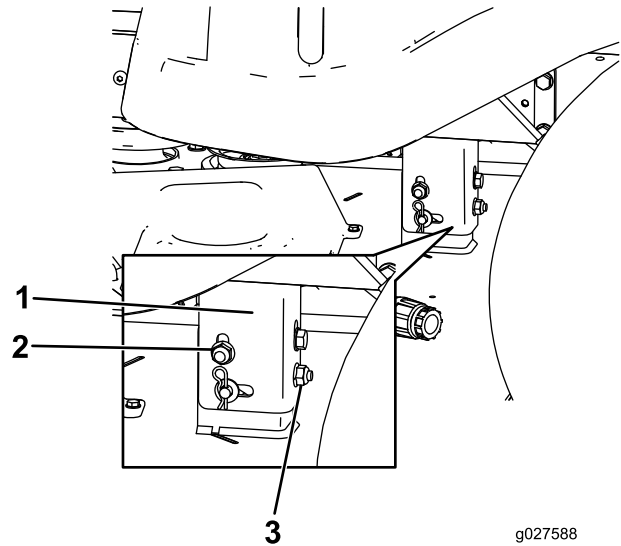

Figure 51
- Raise or lower the left side of the mower deck by rotating the rear nut. (Figure 51).